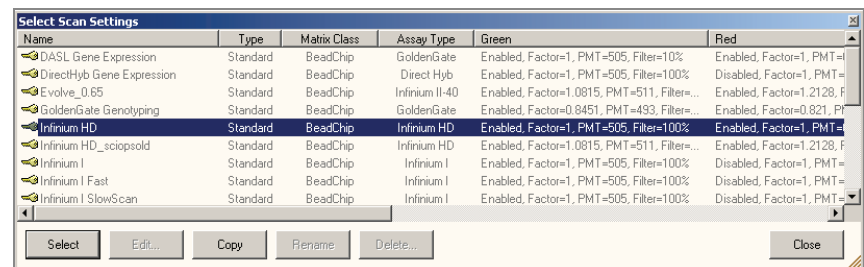

Figure 91 Select Scan Settings Dialog Box
- c. If either the **Sentrix Type** or **Scan Settings** are not correct, click **Browse (...)** to open the Select Scan Settings dialog box (Figure 91).